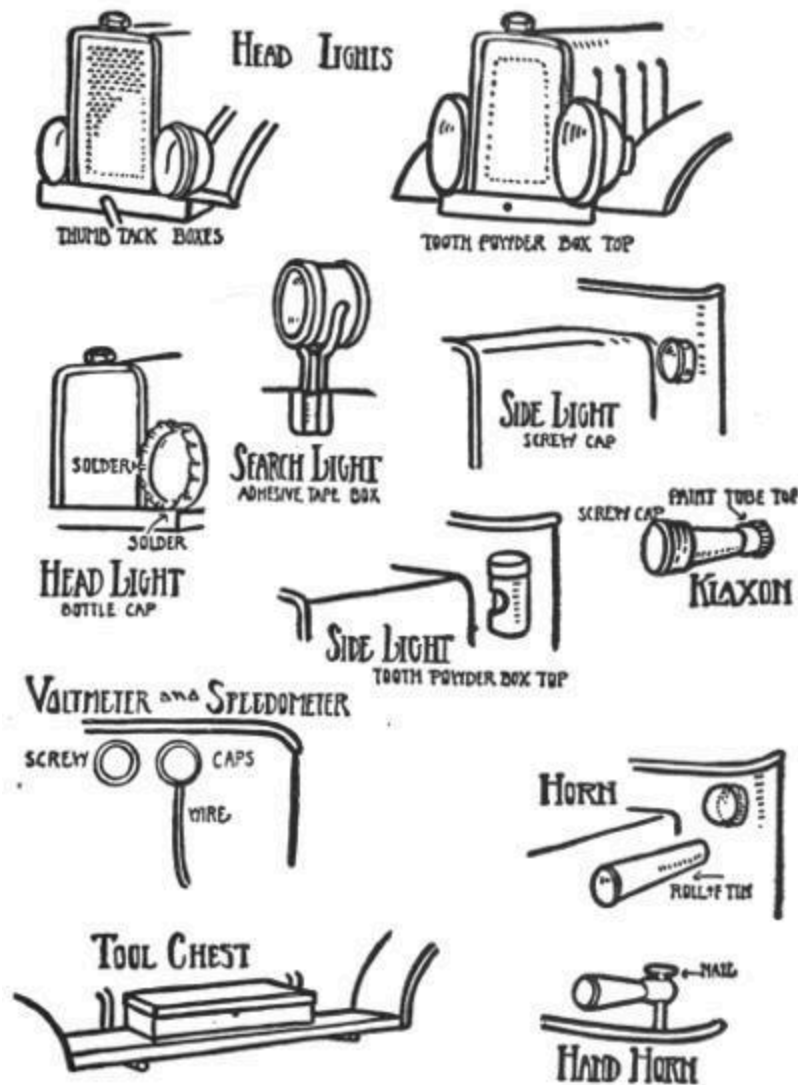

FIG. 85.
The construction of these lights is so simple as to need no further explanation and they are simply soldered to the frame or hood where they touch it when placed in position. The searchlight is usually mounted by punching a hole for the standard in the cowl, or by soldering on an extra piece to the dash to receive the wire standard, Fig. 85.
**Tool Boxes, Horns, etc.**—Small rectangular beef cube or chewing gum boxes may be soldered to the running board for tool boxes. These boxes have rounded corners and look very much like the large tool boxes, Fig. 85.
Horns may be made in several ways, the simplest form being a piece of tin rolled into a cone shape and soldered to the dash. A more realistic horn may be made by soldering a screw cap to the larger end of the cone and adding the cap of a paint tube to the smaller end. A hand horn may be made as shown in Fig. 85.